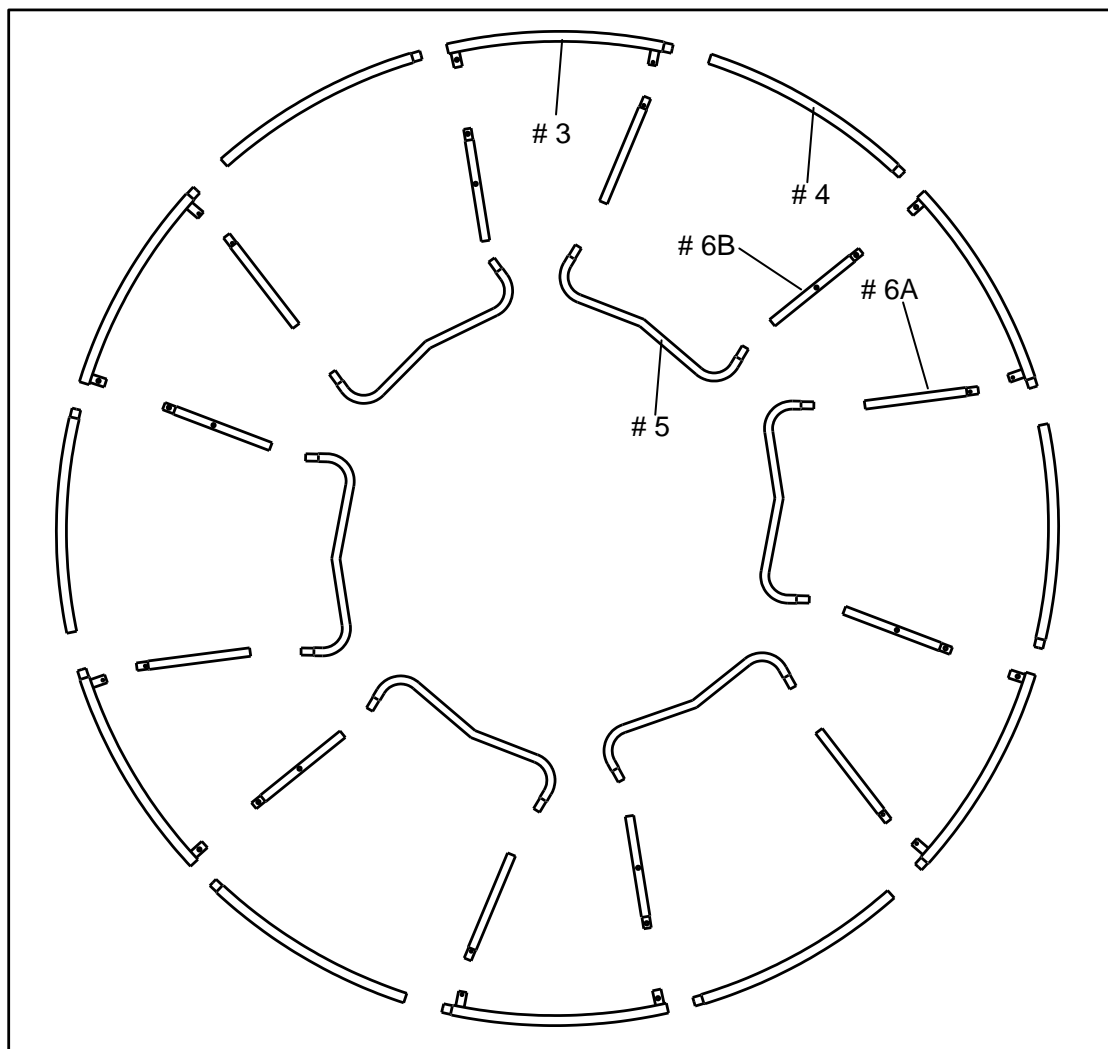

FIGURE 1
- A. Lay out all frame sections in a circle as shown (see FIGURE 1)